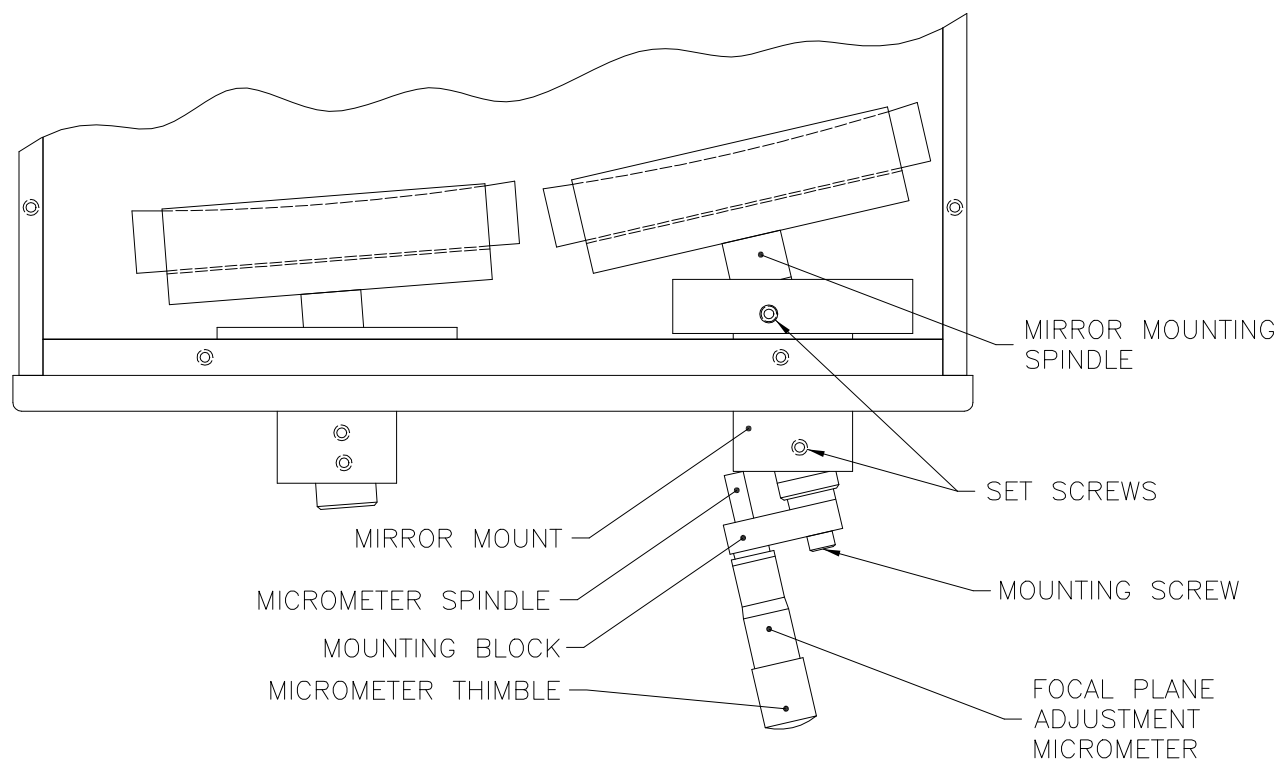

Figure 1
1. Locate the focal Plane Adjustment Micrometer (shipped separately) and the Mirror Mounting Spindle, as shown in figure 1.
5. To make a focus adjustment, remove the Acton 300i cover and loosen the two (2) Set Screws securing the Mirror Mounting Spindle (approximately 1/8 turn). Gently push on the end of the Mounting block while turning the Micrometer Thimble clockwise 0.003 inches, equivalent to 3 divisions on the Micrometer. Assure the Micrometer Spindle contacts the Mirror Mount and re-tighten both Set Screws. To assure repeatable results, gently rotate the Mirror Mounting Spindle slightly clockwise and counterclockwise while tightening the Set Screws. This assures that the Set Screws will align correctly with the machined flat surface of the Mirror Mounting Spindle.